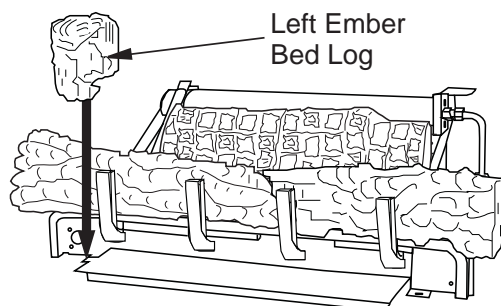

Figure 26 - Installing Left Ember Bed Log
3. Place left ember bed log as shown in **Figure 26**. The log has groove on one side that sets on the ember bed pan. The back side of this log needs to rest against the front of the base assembly. Make sure the flame from the ember pan does not touch the ember bed log.